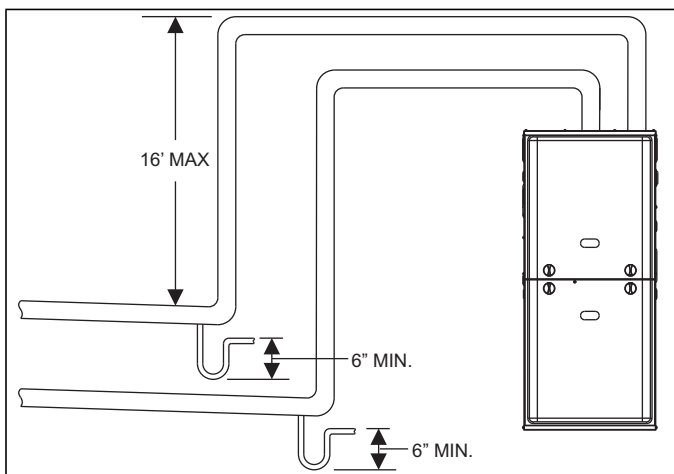

FIGURE 27: Downward Venting
The combustion air side of the single pipe configuration shown in Figures 27 and 34 is referred to in these instructions as ambient combustion air supply. Follow the instructions for ambient combustion air installations, paying particular attention to the section on air source from inside the building. The vent for a single pipe system must be installed as specified in the venting section of these instructions with both vents terminating as shown in Figure 27. Each furnace must have a separate vent pipe. Under NO circumstances can the two vent pipes be tied together.
2. **AMBIENT COMBUSTION AIR:** Combustion air is supplied from the area surrounding the furnace through openings in the furnace casing. The combustion air and the vent pipes are not terminated in the same atmospheric zone. Refer to Figure 27 for vent terminations. Refer to "Ambient Combustion Air Supply" for proper installation. Refer to Figures 34 and 35.